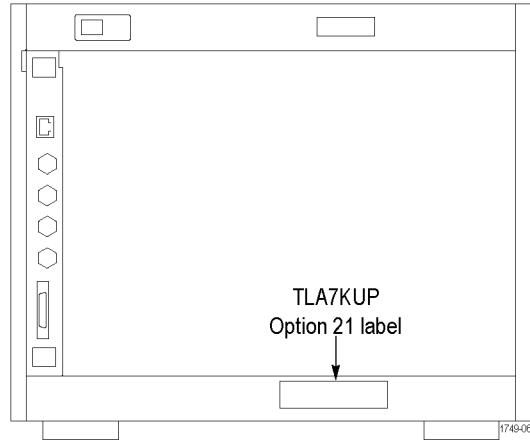

Figure 43: Front panel upgrade label location
2. Locate the instrument upgrade label (“Upgraded with TLA7KUP Option 21”) and affix it to the lower front panel of the instrument as shown. (See Figure 43.) If there already is another label on the front panel, place the new label next to the old label.